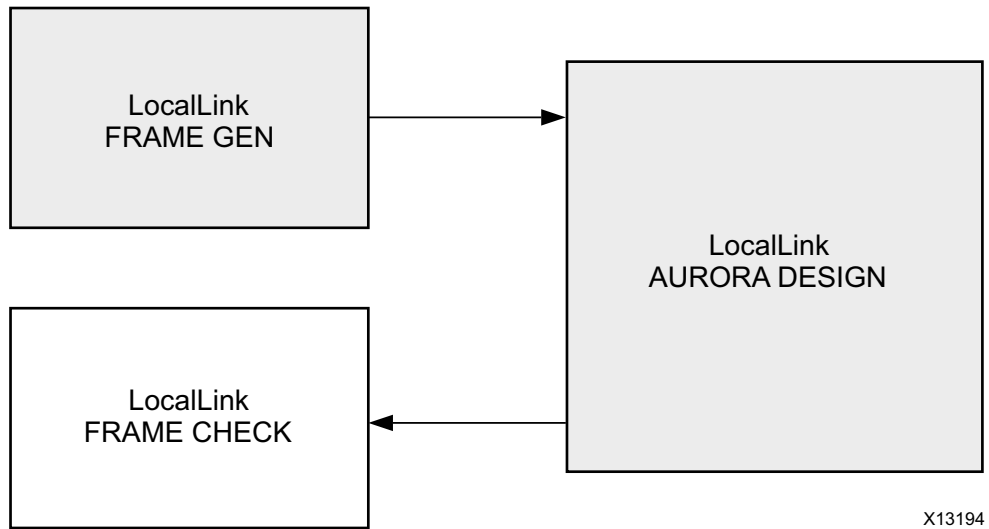
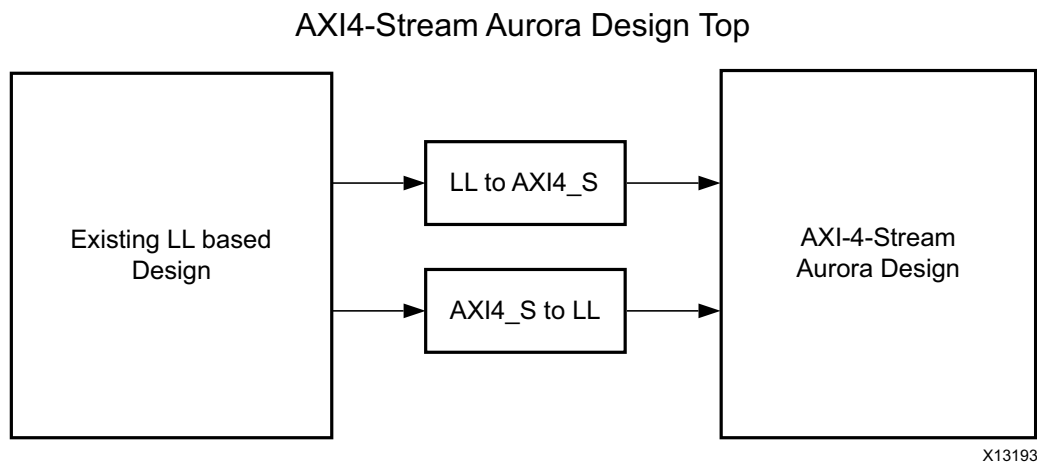

Figure B-1: Legacy Aurora Example Design
Figure B-2: AXI4-Stream Aurora Example Design
Figure B-1 shows an example Aurora design using the legacy LocalLink interface. Figure B-2 shows an example Aurora design using the AXI4-Stream interface.
2. See Figure B-2, page 88 for the emulation of an LL Aurora core from an AXI4-Stream Aurora core.
5. Connect the shim and AXI4-Stream Aurora design as shown in Figure B-2, page 88.